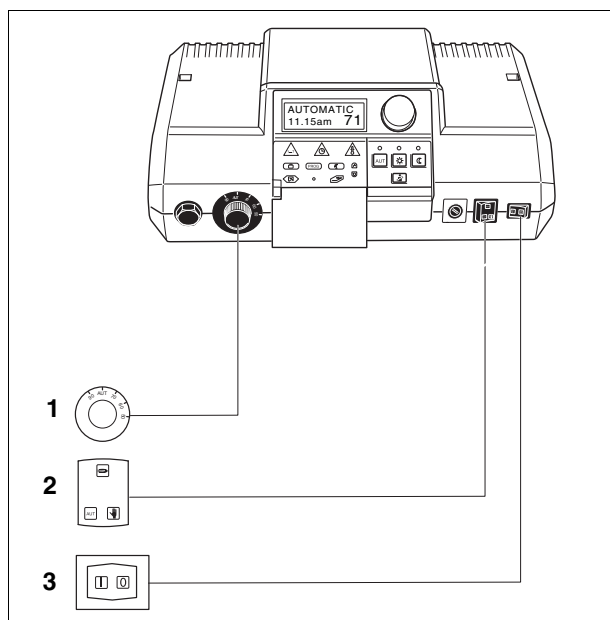

Fig. 17 Check the settings of the controls
- Boiler water thermostat (Fig. 17, **Item 1**)
- Emergency mode, heating and DHW switches (Fig. 17, **Item 2**).
- Set the On/Off switch to the **I** position (Fig. 17, **Item 3**).